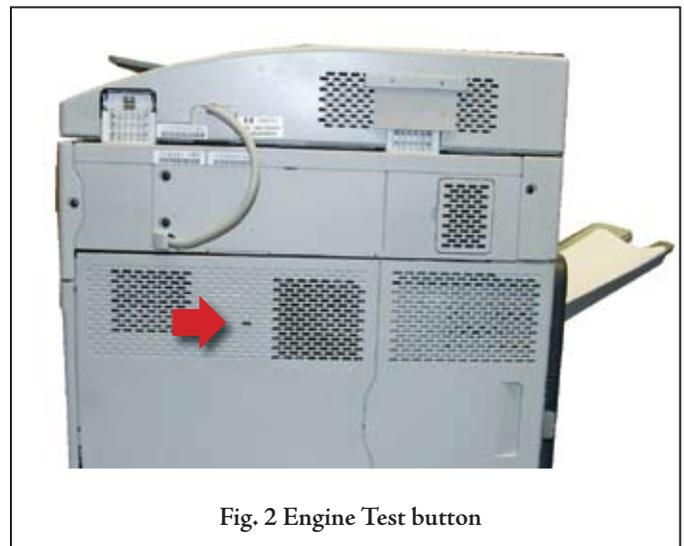

Fig. 2 Engine Test button
- a. The engine test button is accessible through a small single hole on the back of the printer (see figure 2). Use a long, thin, non-metallic object to reach through and press the switch.